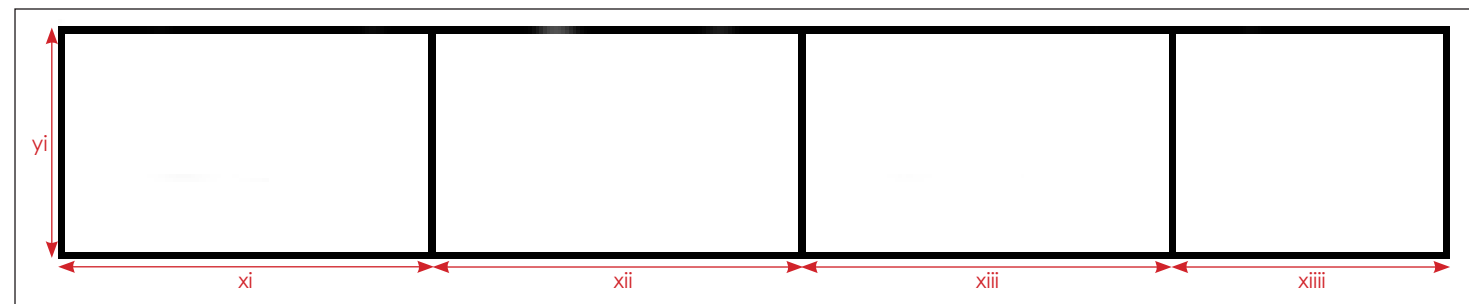
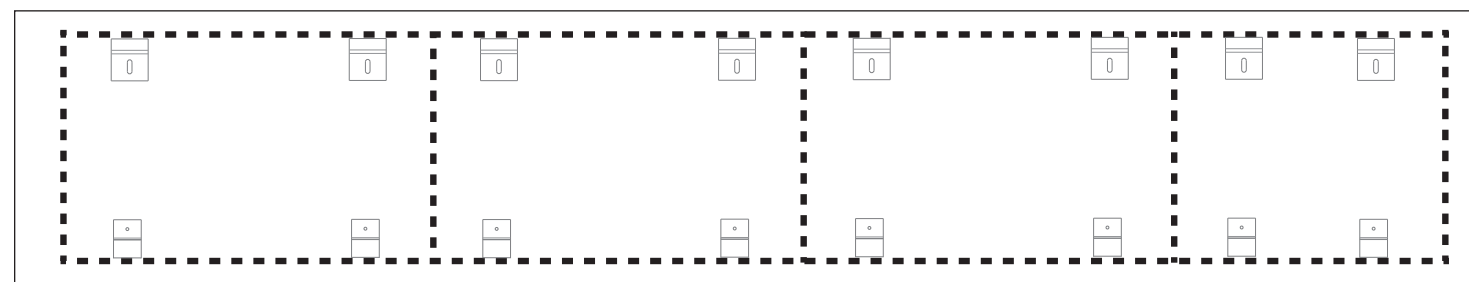

Figure 1: Typical Display Layout (Front View)
Figure 2: Typical Wall Support Structure with Display Overlay
**Figure 1** illustrates a front view of a typical display layout that is linearly scalable with all available section sizes, and **Figure 2** illustrates a front view of a typical wall support structure. Refer to the supplied display section layout documentation for dimensions ( $X_{ix}$ ) and ( $Y_{ix}$ ), to the **RTN-301 Series Section Lifting Quick Guide (DD3958389)** for available section sizes, and to the contract-specific Shop Drawing for horizontal wall clip locations.